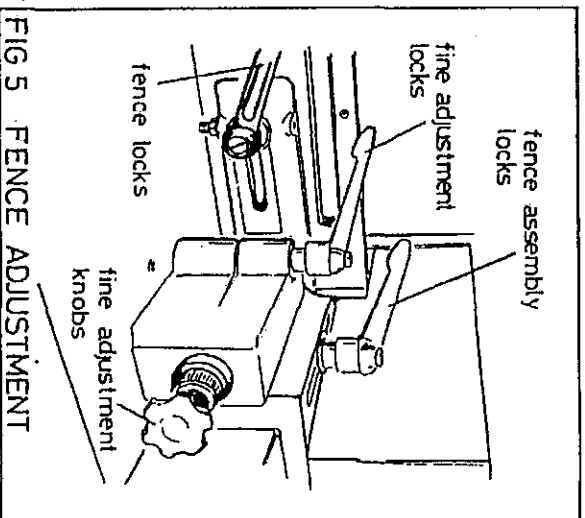
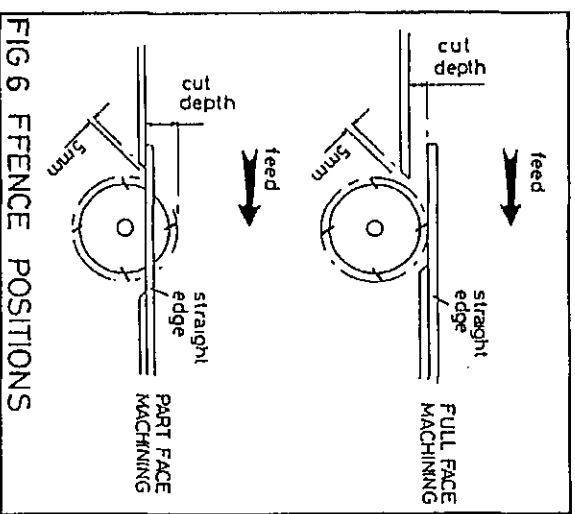

FIG 5 FENCE ADJUSTMENT
FIG 6 FENCE POSITIONS
Straight Fence Adjustment (Fig 5, Fig 6)
- 3) To remove or replace the outer rings the fence locks have to be totally unscrewed and the fences removed (see Section 3-Straight fence adjustment Fig 5).